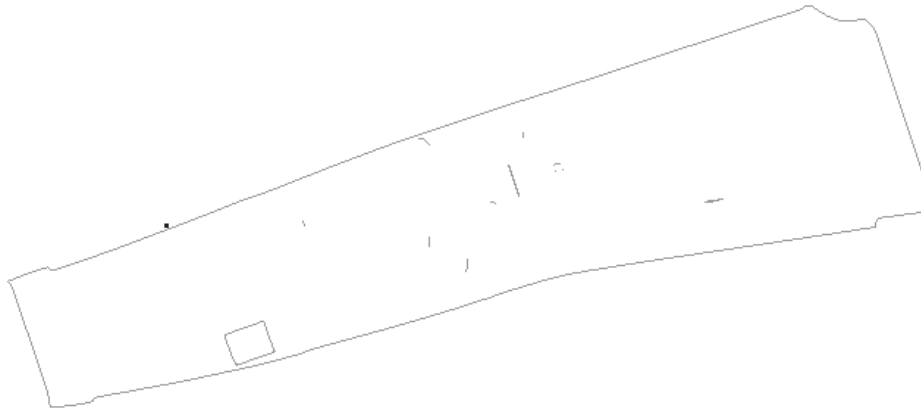

Figure 15. Mesh boundary visualization
- 2 . After generating the mesh, select **Mesh->View mesh boundary**. This will result in the image pictured in Figure 15.